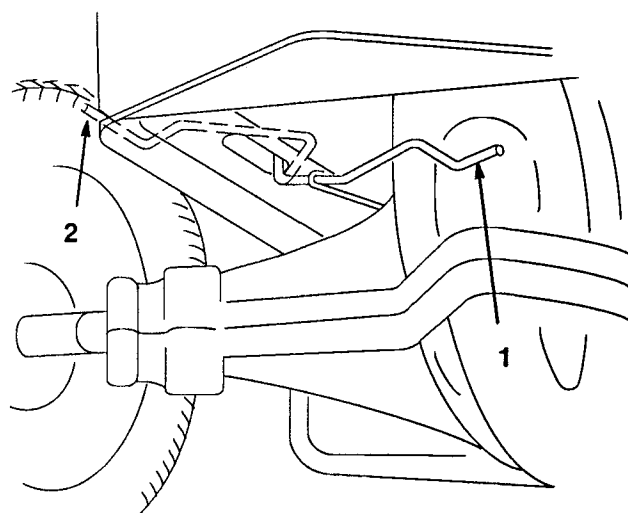

Figure 10
2. Move the drive control to the “PUSH” position. This disengages the drive system and allows the wheels to turn freely (Fig. 10).
1. MOVE the drive control to the “OPERATE” position. This engages the drive system (Fig. 10).